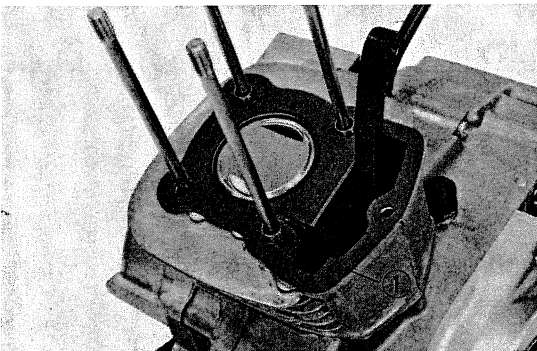

Fig. 36 Cylinder removal
① Cylinder gauge ② Cylinder
- 11) Lift and remove the cylinder. (Fig. 36)